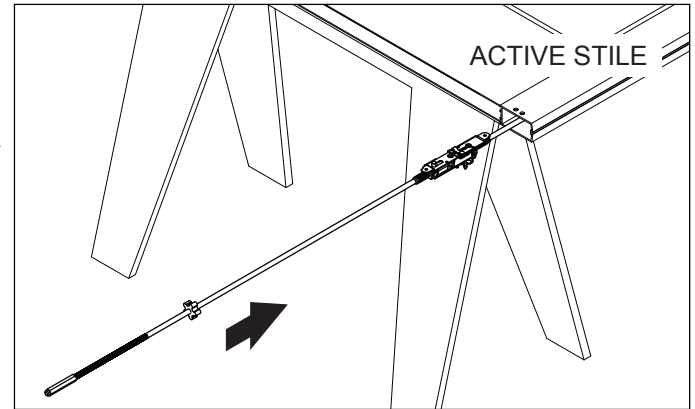

FIG. 9
1. Insert the panic device rod and case assembly into active stile (Fig. 9).